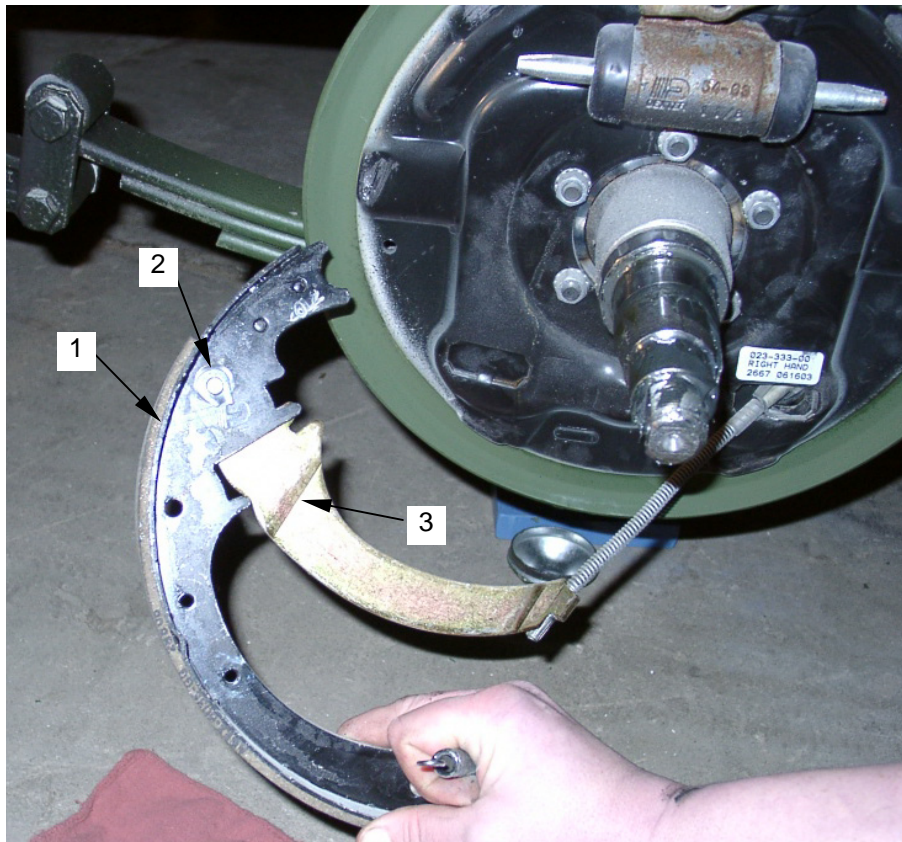

Figure 32. Emergency Brake Lever
- cc. Remove horseshoe clip (**figure 32, item 2**) from emergency brake lever (**figure 32, item 3**).
- ff. Reinstall emergency brake lever (**figure 32, item 3**) and horseshoe clip (**figure 32, item 2**) on secondary brake shoe (**figure 32, item 1**).